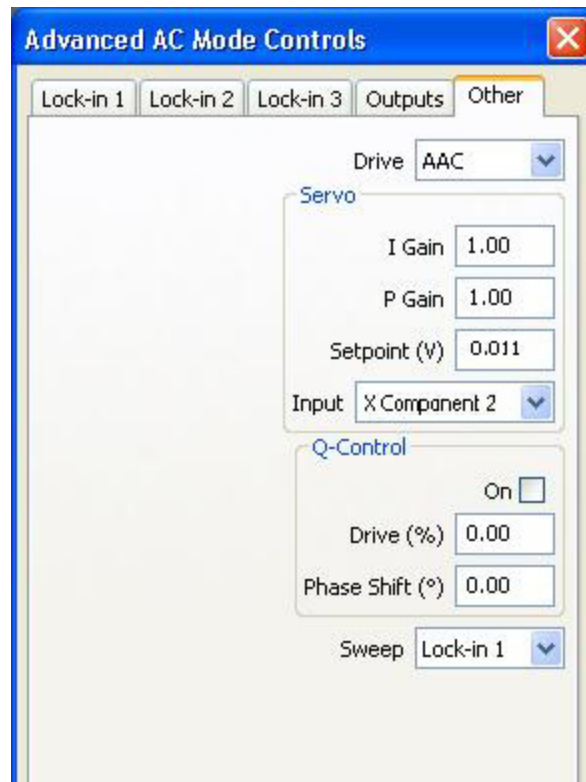

Figure 106 Advanced AC Mode Controls Other tab
- 1 Choose **Controls > Advanced > AC Mode**, then click the **Other** tab (Figure 106).